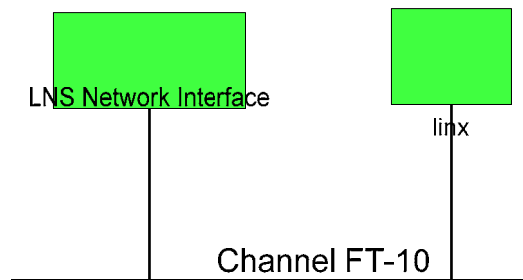

Figure 94: The LINX-10X has been added to the drawing.
10. Finally, you should get the device added to your drawing as depicted in Figure 94.